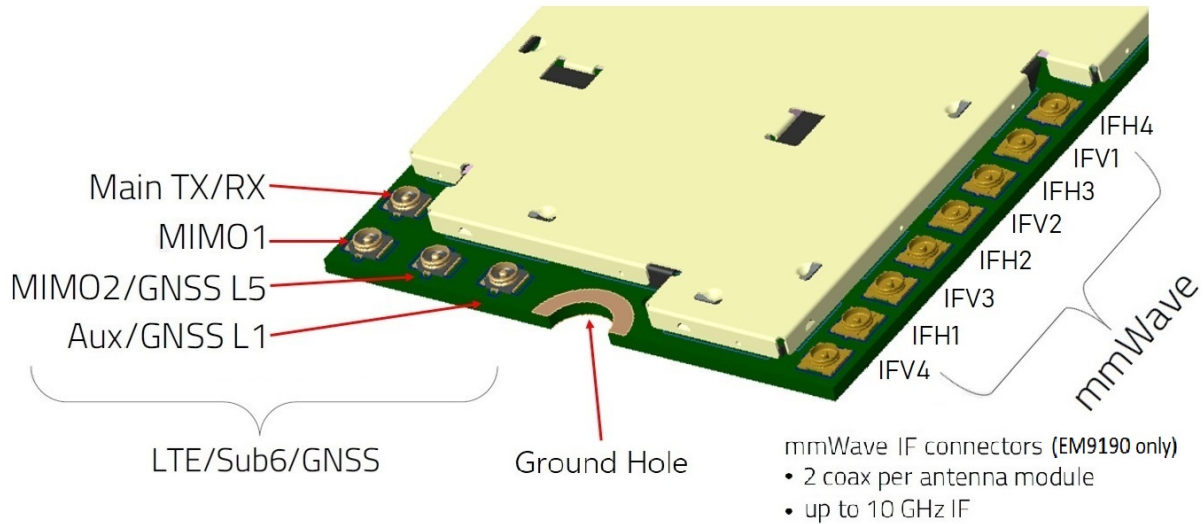

Figure 4-1 Module Connectors Include Image with Spacing Info
- Connect to system ground using the ground hole shown in Figure 4-1.